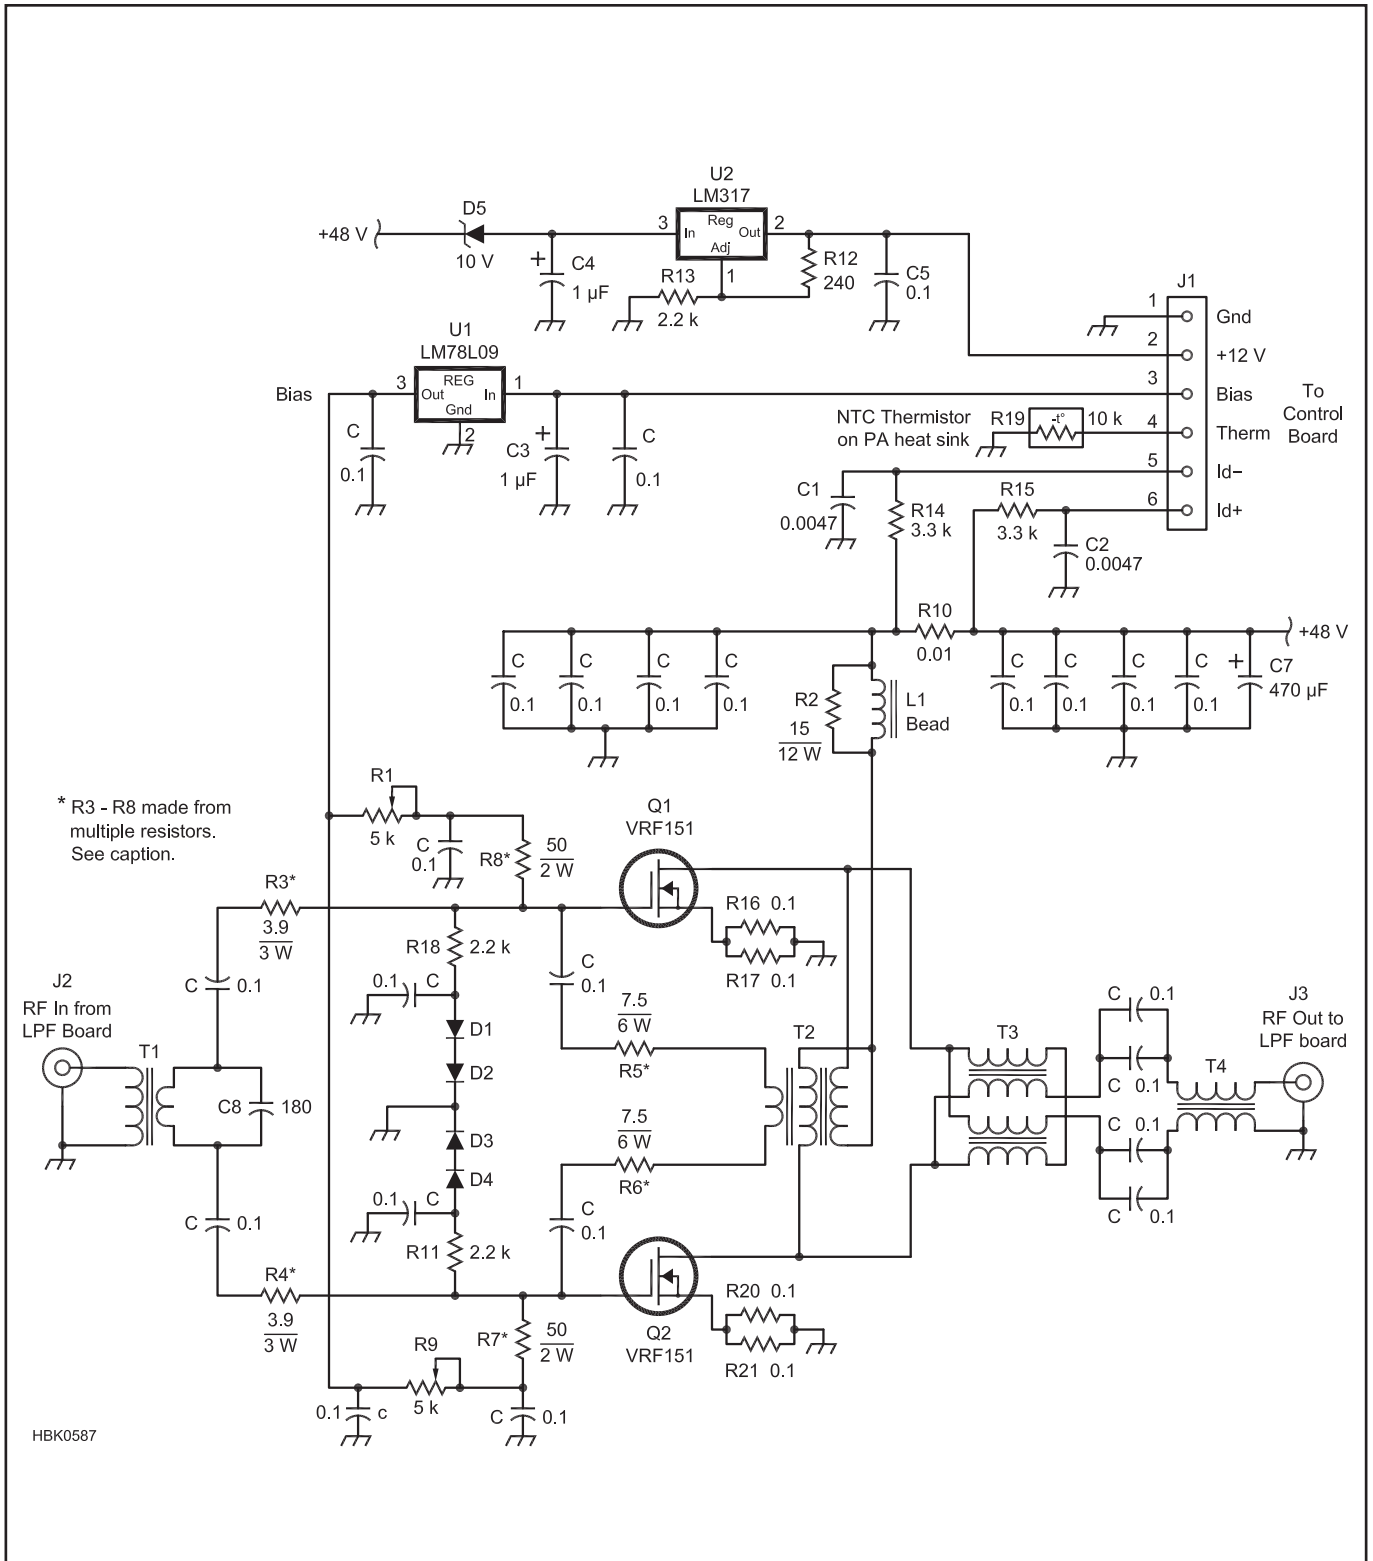

Fig 17.45 — Schematic diagram of the 250-W amplifier PA module. A complete parts list may be found on the *Handbook CD*.
Fig 17.45 shows the power amplifier (PA) schematic. Two Microsemi VRF151 MOSFETs are used in this amplifier. The circuit topology is a 4:1 transmission line transformer type, rather than a “tube and sleeve” type common in many PA designs and discussed earlier. This style offers more bandwidth, necessary to provide performance on 6 meters. Typical gain is 15 dB; 10-W drive will easily provide 250-W output with a 48-V supply. There is a lot of latitude in this design. It can be operated on an unregulated supply. As long as the maximum unloaded voltage does not exceed 65 V, the transistors will not be overstressed. Other devices such as the MRF151, SD2931 or BLF177 would probably also work but have not been tested. They will require a regulated power supply, however.